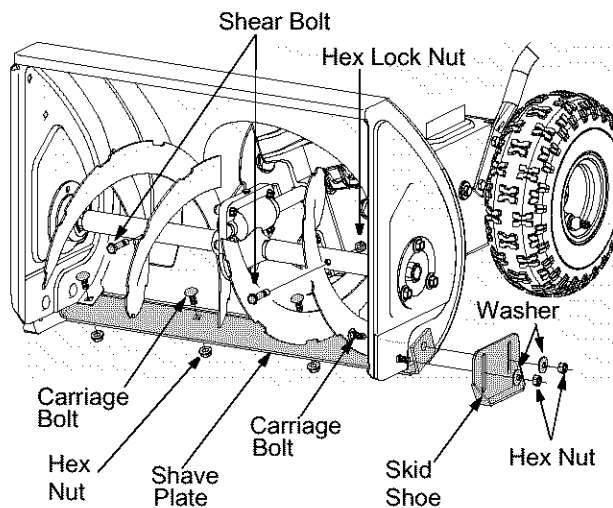

Figure 11
1. Remove the four carriage bolts, belleville washers and hex nuts which attach skid shoes to the snow thrower on two sides. See Figure 11 .
3. To remove shave plate, remove skid shoe and rest of the hardware including carriage bolts, belleville washers and hex nuts which attach shave plate to the snow thrower housing. For location of shave plate, see Figure 11 .
The augers are secured to the spiral shaft with two shear bolts and hex lock nuts. See Figure 11 . If you hit a foreign object or ice jam, the snow thrower is designed so that the bolts will shear.
If the augers do not turn, check to see if the bolts have sheared. Replace if necessary. See Figure 11 .
3. Remove the self-tapping screw shown in Figure 11, and push the belt cover to release the plastic tabs. Pull the belt cover out from around the engine and the chute. Remove it away and save.